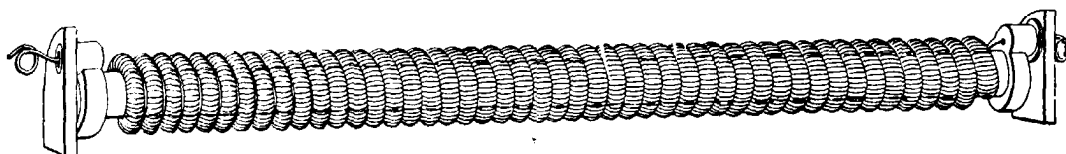

FIG. 40.
37. Construction.—Fig. 40 shows the coil used in the consolidated heater, and which is constructed as follows: On a stout iron rod are strung porcelain tubes that run the full length of the heater. These pieces have a spiral groove in them and are put on the rod so that a continuous spiral groove runs the full length of the core. The heater coil is placed in this groove. This way of arranging the coil places
a great amount of wire in a given space and gives the air a good chance to get at all parts of it. The terminal wires that run out of the case at each end, through porcelain bushings, are attached to the ends of the coil by twisted and soldered joints and are well secured without the aid of binding posts. In each heater are two coils, like that shown in Fig. 40, placed one above the other. The top coil has the greater resistance.